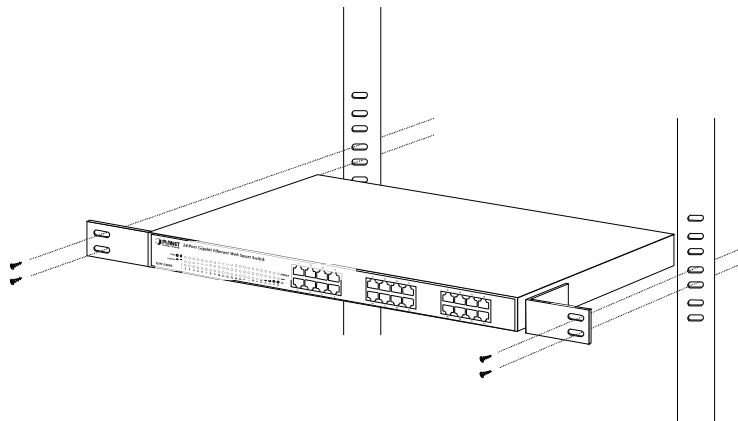

Figure 2-6 Mounting the Switch in a Rack
Step5: After the brackets are attached to the Switch, use suitable screws to securely attach the brackets to the rack, as shown in Figure 2-6